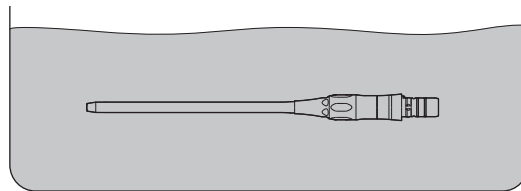

Fig. 8
- 2 Immerse the product in the cleaning tank for 20 - 30 min (Fig. 8).